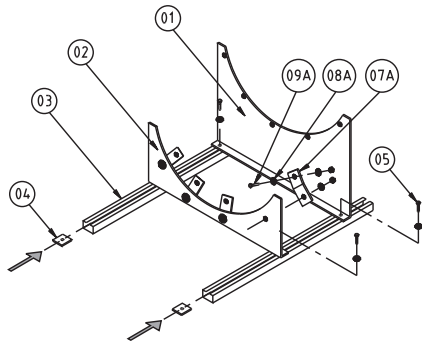

Figure 5. Mounting foot for types ACP and ACG 1250-1600 (optional)
The fan houses for ACP and ACG sizes 1250 – 1600 have circular fan casings. Therefore, the fan casing is mounted with fittings for mounting foot (fig. 5, item 07A) and joining elements (fig. 5, items 08A and 09A).
Mount the fittings on the back of the mounting foot and fan casing as shown on fig. 5.